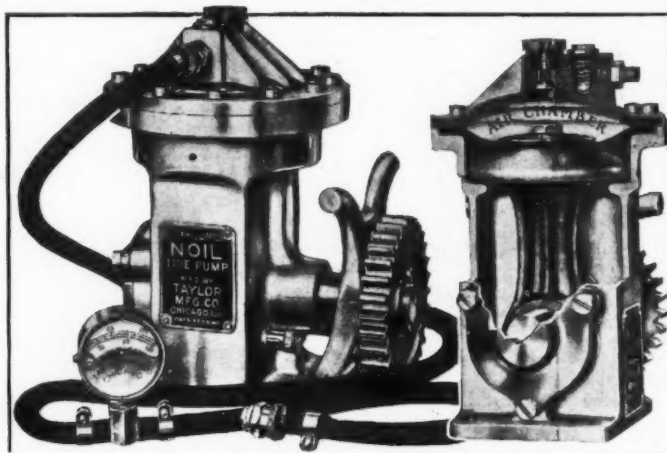

Fig. 4—At the left is shown the Taylor Noil tire pump ready to install on a car, while a partial section through the device is given at the right
**Taylor's Noil Tire Pump**—The Taylor Noil Tire Pump is manufactured by the Taylor Mfg. Co., Chicago, Ill. This pump, shown in Fig. 4, is a stationary pump that is permanently attached to an automobile motor by means of a little bracket, thus permitting the sliding gear of the pump to be instantly set in motion with a twin gear applied to some conveniently-exposed shaft. By means of the long hose, shown in the illustration, it delivers air to any of the four tires with equal dispatch and ease. The manufacturer claims that about 4 minutes are required to fill the largest size tire to the proper pressure from the pump. There are no complicated parts. The pump is simple in principle and in construction. The crankcase is aluminum, the gears and plunger are of solid bronze. Its plunger is a special bronze casting and is capable of withstanding a pressure of 1,000 pounds. It employs no leather cups, no piston rings, and, due to its mechanical construction, cannot discharge oily vapor into tires. By reference to the cross-sectional view of the pump it will be seen that the air-chamber is absolutely independent of its crankcase and is separated from it by an air-tight rubber diaphragm which forms the base of the air-chest. It supplies a steady, powerful flow of air. The heat of the compression is the only heat it generates. This pump measures 7.25 inches in height and weighs exactly 6.5 pounds.